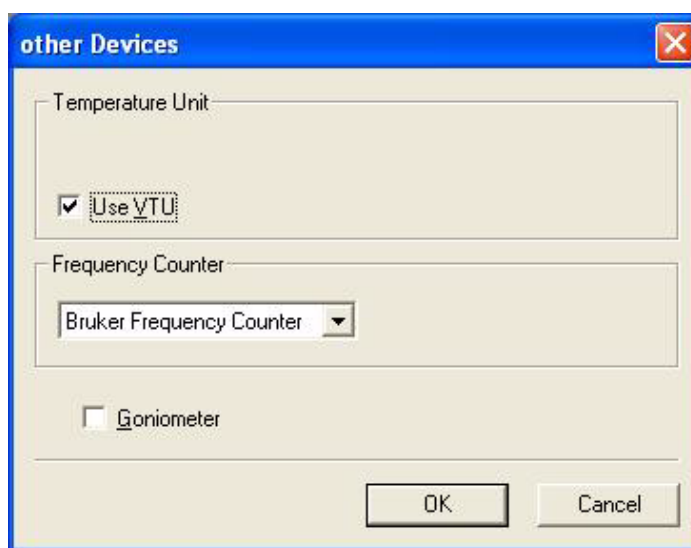

Figure 2-9 Establishing communication between your PC and the ER 4141 controller using the other Devices dialog box.
1. **Open the EMX Win Acquisition software.** Make sure the EMX spectrometer is on before launching WIN Acquisition. When the software has opened, you will need to configure it for the ER 4141 controller. First close all spectrum windows. You will notice that the top menu bar changes to include the **S**etup window. Open the **S**etup drop-down menu and click on **o**ther **D**evelopments. Click the “Use **V**TU” check box. (See Figure 2-9.) Now when you close the dialog box the temperature reading should appear to the right of the receiver level indicator.